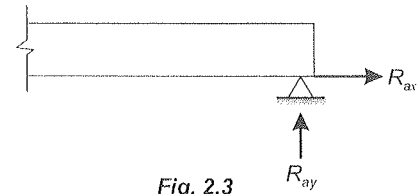

Fig. 2.3
2. **Hinged Support** : The hinged support is capable of resisting forces in any direction and the beam has no translatory motion in any direction, at a hinged support. This reaction can be split into two components acting in the horizontal and vertical directions (fig. 2.3) and can be determined using equation of equilibrium. This support cannot resist rotation of beam.